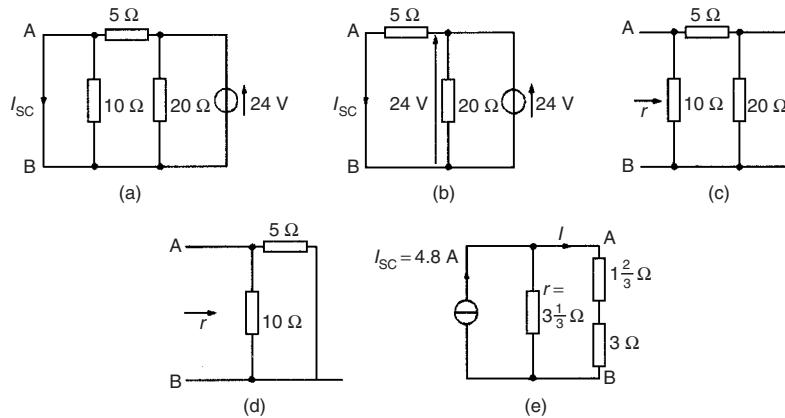

Figure 13.60
- (i) The branch containing the 3Ω resistance is short-circuited as shown in Fig. 13.60(a)
- (ii) From the equivalent circuit shown in Fig. 13.60 (b),
- (iii) If the 24 V source of e.m.f. is removed the resistance 'looking-in' at a break made between A and B is obtained from Fig. 13.60(c) and its equivalent circuit shown in Fig. 13.60(d) and is given by:
- (iv) From the Norton equivalent network shown in Fig. 13.60(e) the current in the 3Ω resistance is given by: